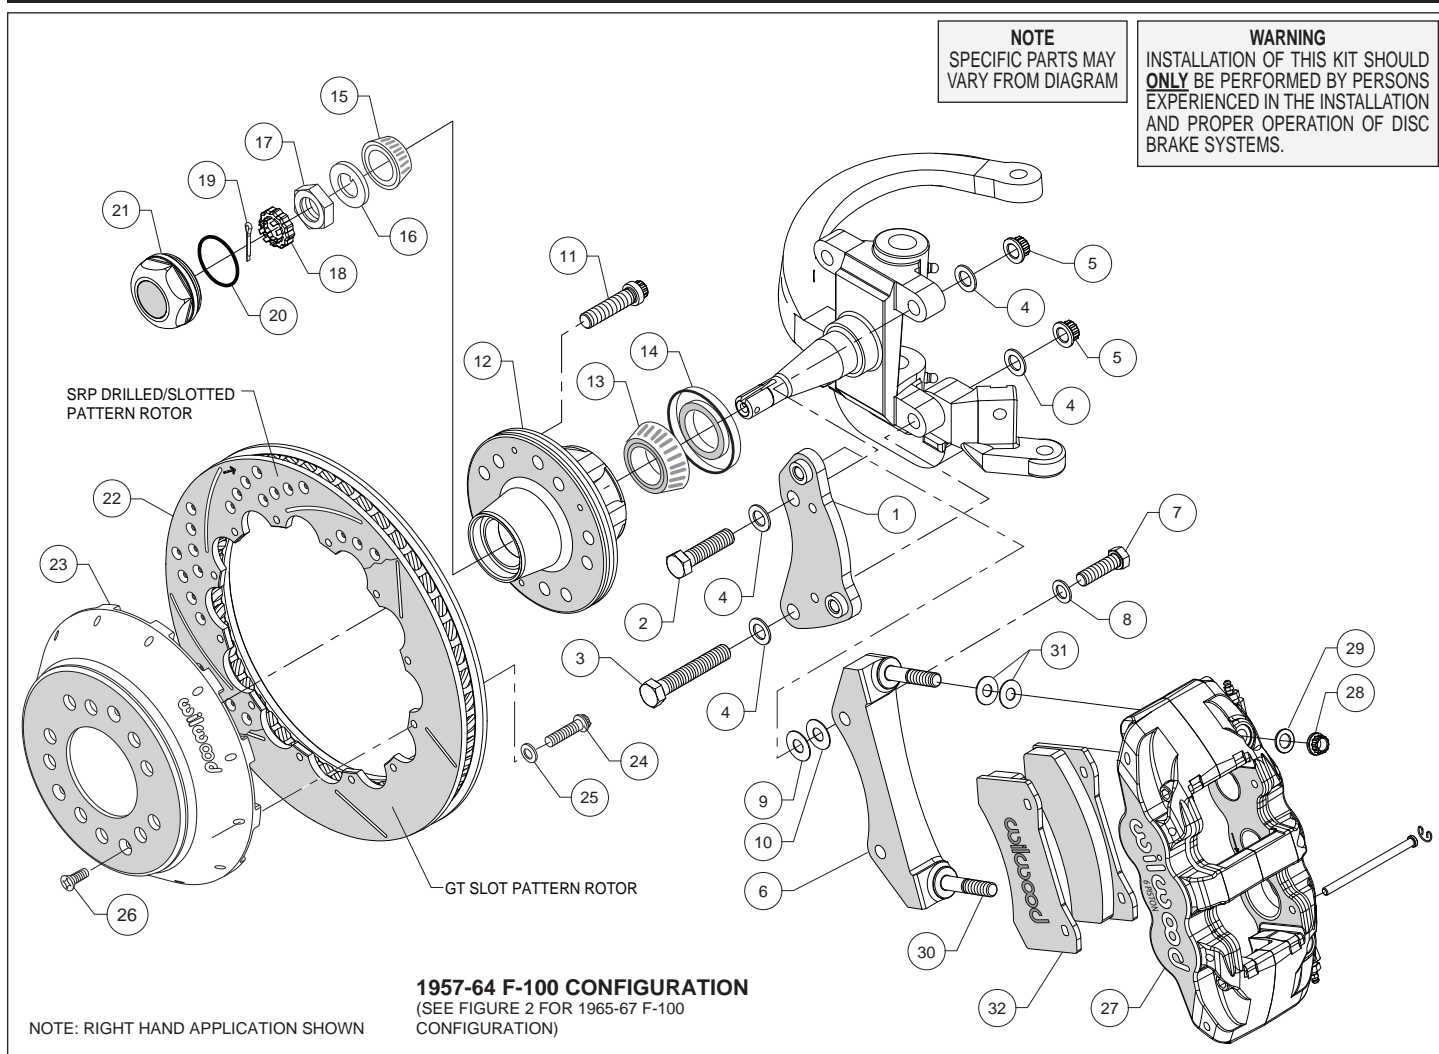
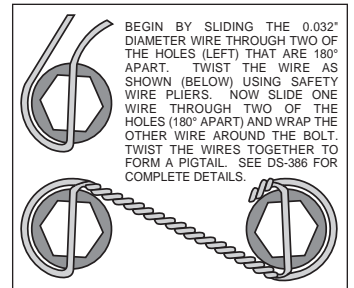
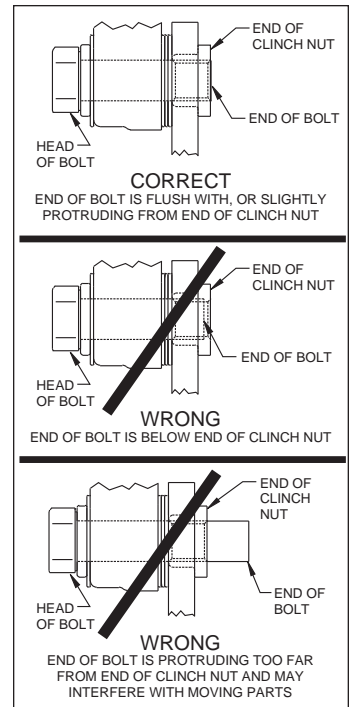

Figure 1. Typical Installation Configuration, Model Years 1957-1964
Figure 4. Safety Wire Diagram
Figure 5. Clinch Nut Engagement Diagram
Assembly Instructions (numbers in parenthesis refer to the parts list, on the preceding page and Figures 1 and 2). **CAUTION:** All mounting bolts must fully engage clinch nuts. Be sure to check that all bolts are either flush or protruding through flanged side of clinch nut after shimming, Figure 5.
- Orient the spindle bracket (1) as shown in Figure 1 or 2, and Photo 1, and install using bolts (2 and 3), washers (4) and nuts (5). Temporarily tighten the mounting bolts. Ensure that the flanged heads of the clinch nuts in the bracket are facing outboard, Photo 1. **NOTE:** The bracket must fit squarely against the mount bosses on the upright. Inspect for interference from casting irregularities, machining ridges, burrs, etc. Torque lock nuts (5) to 65 ft-lb.
- The caliper mount radial bracket (6) should initially be installed with clean, dry threads on the mounting bolts. Orient the bracket as shown in Figure 1 or 2, and Photo 2. Install onto the spindle bracket using bolts (7), and washers (8). Initially place one .030 thick shims (9) on each bolt between the radial and spindle brackets, Figure 1 or 2. Temporarily tighten the mounting bolts. Later, after the caliper alignment has been checked, the mount bolts will be secured using red *Loctite*® 271.
- Screw dust cap (21) into hub (12), Photo 8. Friction created by the o-ring (20) on the dust cap keeps it from unscrewing. **NOTE:** *The O.D. of the existing OEM spindle washer may be larger than the I.D. of the dust cap not allowing it to seat against the hub face. Therefore, use the spindle washer (16) supplied with the kit instead of the OEM washer.*
- Orient the rotor (22) and the hat (23) as shown in Figure 1 or 2 and Photo 9. Attach rotor to hat using bolts (24) and washers (25). Using an alternating sequence, apply red *Loctite*® 271 to the threads, and torque to 155 in-lbs. For an added measure of security, the bolts may be safety wired using standard 0.032 inch diameter stainless steel safety wire as shown in Figure 4. Refer to Wilwood's data sheet DS-386 (available at www.wilwood.com/Pdf/DataSheets/ds386.pdf) for complete safety wire installation instructions.
- NOTE:** *This kit contains distinct right and left hand calipers that must be mounted in a specific direction, as described below.* Lubricate the caliper mounting studs (30) with lightweight oil. Initially place two .030" thick shims (31) on each stud between the caliper and the bracket, as shown in Figure 1 or 2, and Photo 11. Mount the caliper (27) onto the bracket (6) using lock nuts (28) and washers (29), Figure 1 or 2. Ensure that the caliper is mounted so the largest pistons are at the rotor exit end of the caliper, in relation to the direction of rotor rotation. Temporarily tighten the lock nuts and view the rotor through the top opening of the caliper. The rotor should be centered in the caliper, Photo 12. If not, adjust by adding or subtracting shims (9 and/or 10)